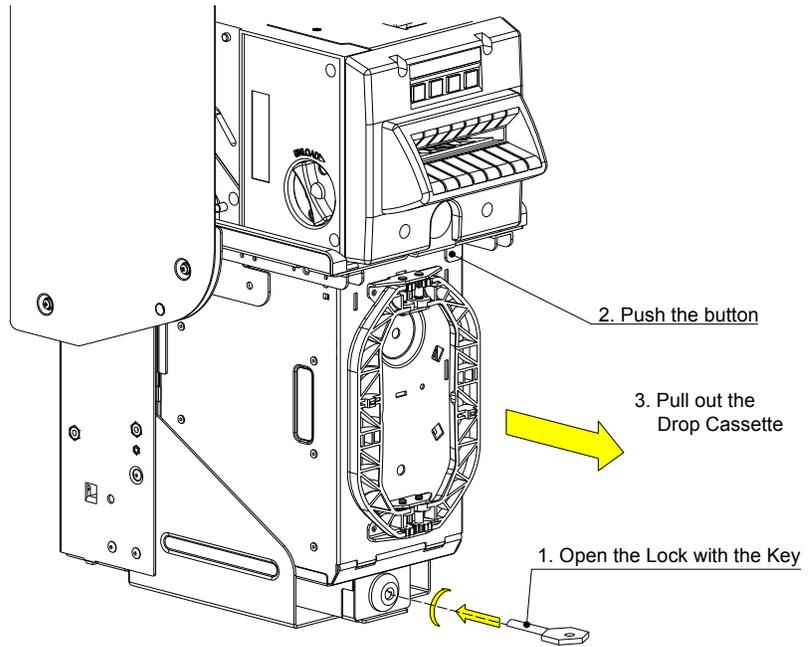

Fig. 21
**Removing the Drop Cassette (Fig. 21):**